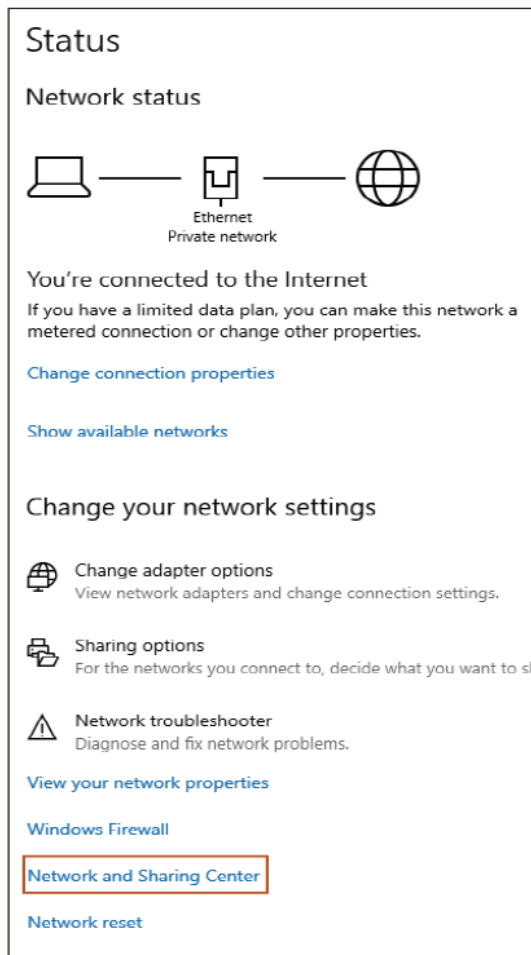

Figure 4.1
1. Connect the Control Box to the PC directly with a Network Cable, and then modify the IPV4 address of the PC to be the same as the network segment of the Control Box. The factory IP address of the device has been marked on the side of the Control Box. The IP settings on the PC are shown in Figure 4.1 -4.5;